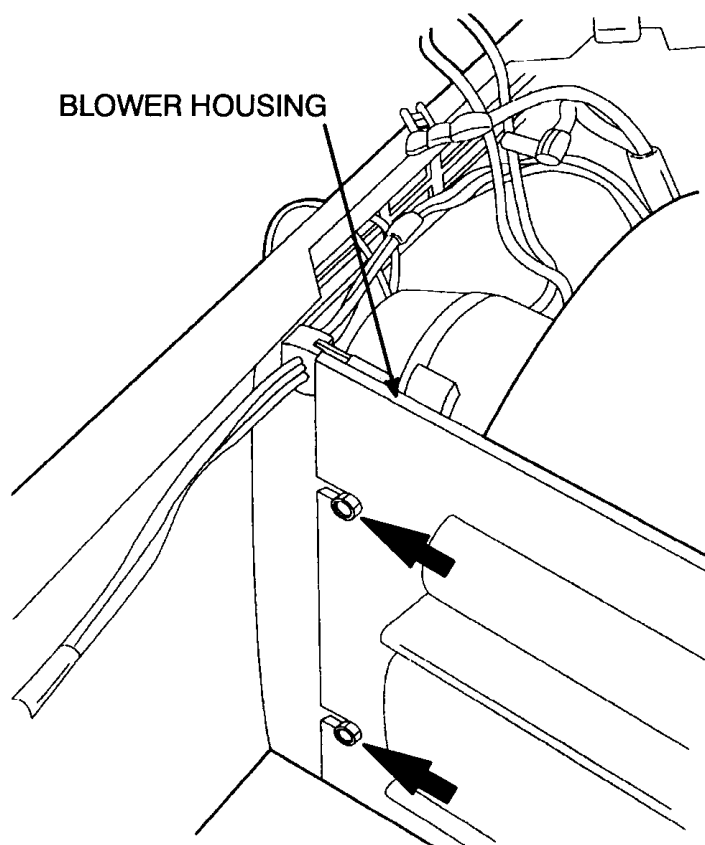

Figure 38 Blower Motor Housing Screws
4. Remove two screws from the blower motor housing where it is fastened to the inside of the Blend-Air unit (Figure 38).
5. Install and tighten the two screws that secure the blower motor housing to the inside of the Blend-Air unit (Figure 38).